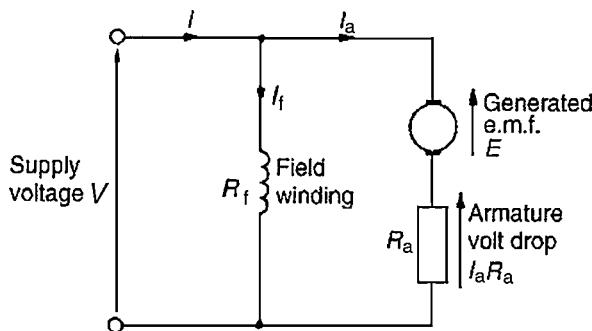

Figure 22.16
In the shunt wound motor the field winding is in parallel with the armature across the supply as shown in Fig. 22.16.
For the circuit shown in Fig. 22.16,
(ii) The armature circuit of a d.c. motor has resistance due to the armature winding and brushes, R_a ohms, and when armature current I_a is flowing through it, there is a voltage drop of $I_a R_a$ volts. In Fig. 22.16 the armature resistance is shown as a separate resistor in the armature circuit to help understanding. Also, even though the machine is a motor, because conductors are rotating in a magnetic field, a voltage, $E \propto \Phi \omega$, is generated by the armature conductors. From Equation (5), $V = E + I_a R_a$ or $E = V - I_a R_a$. However, from Section 22.5, $E \propto \Phi n$, hence $n \propto E/\Phi$ i.e.